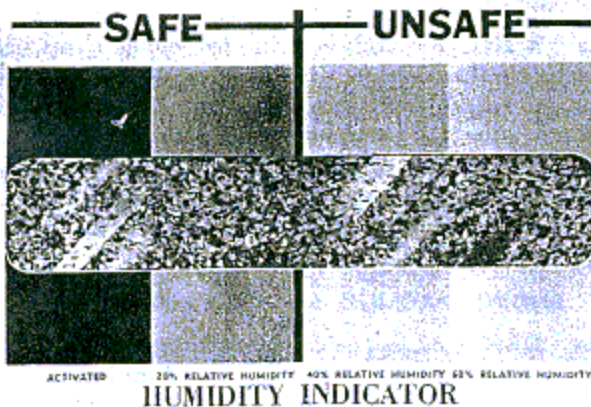

Figure 13—Humidity Indicator
Visual inspection of the humidity indicator must be made just prior to shipment and every two weeks thereafter. Whenever the color indicates a moisture content of over 20 percent as shown on figure 13, replacement of silica-gel containers will be necessary.
(3) In the accessory end of the upper section of the shipping crate, an inspection window is provided for view of the humidity indicator. Whenever placed in storage, the crate will be so positioned as to make the window accessible for bi-weekly inspection of the coloring progress of the cobalt chloride impregnated silica-gel in the humidity indicator. (See figure 13.)